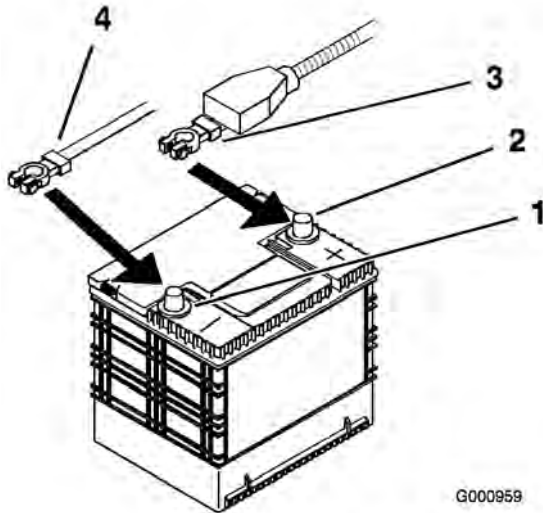

Figure 46
4. First disconnect the negative battery cable from the negative (-) battery terminal (Figure 46).
- Slide the red terminal boot off the positive (red) battery terminal. Then remove the positive (red) battery cable (Figure 46).
- Position battery in the tray with the terminal posts opposite from the hydraulic tank (Figure 46).
- Secure the cables with 2 bolts (1/4 x 3/4 inch), 2 washers (1/4 inch), and 2 locknuts (1/4 inch) (Figure 46).